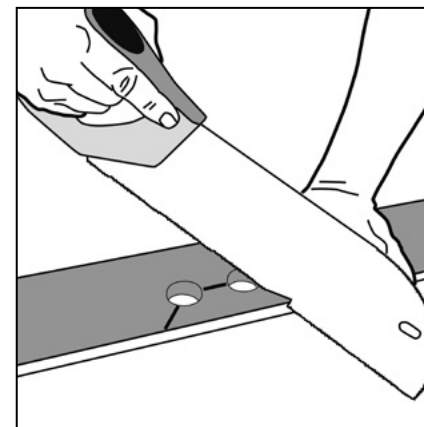

Figure 17 Radiator pipes
6.27.10 Radiator Pipes (fig. 17 & 18)